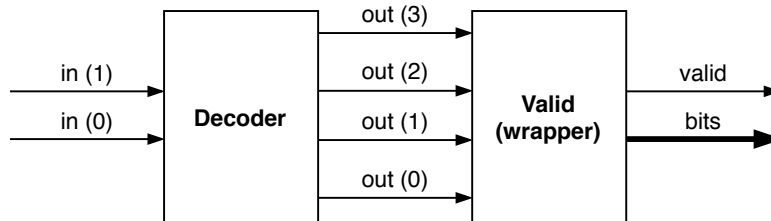

Figure 3.8: Decoder with output wrapped in Valid interface.
**Task 3:** To understand the concept of Valid interface, write a code of 2 to 4 Decoder and wrap the output in Valid construct. Skeleton code for this task is available in Listing 3.12. Block level diagram of immediate extension is shown in Figure 3.8.